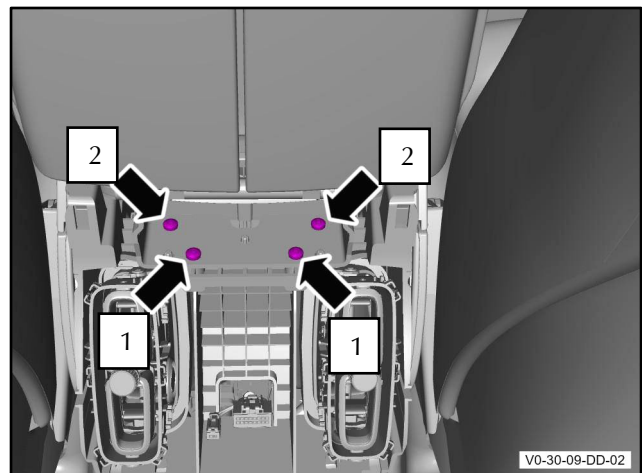

Figure 32
23. Install the four bolts in the illustrated order (refer to Figure 32).